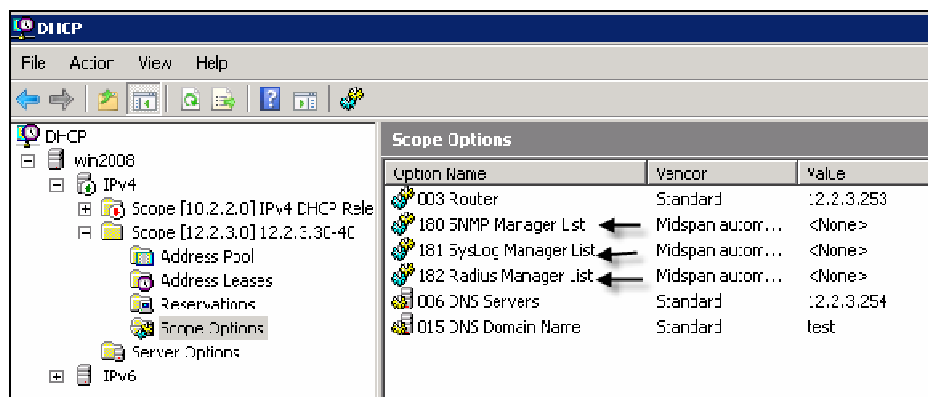

Figure 4-33: Advertised Scope Options
- Check the sub vendor options that the DHCP Server should advertise so as to automatically configure the various IP addresses used by the Midspan. The new configured scope options are added to the Scope Options advertised by the DHCP Server (Figure 4-33).